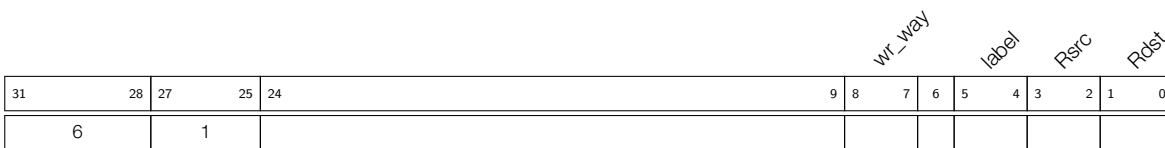

Figure 2-12. Instruction Type - Data Storage in Automatic Storage Mode (ST-AUTO-DATA)
- Operand Description** - See Figure 2-12